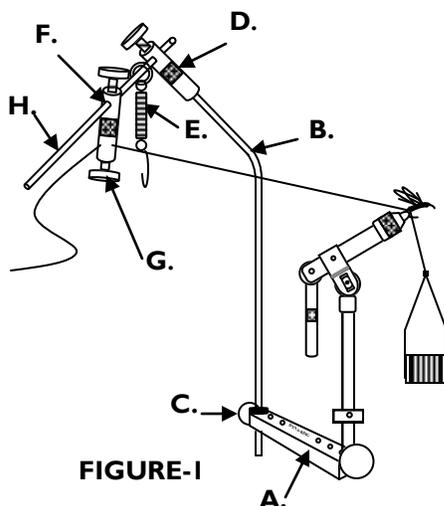

FIGURE-1
The **EB&P Tool** is adjustable to nearly any position around your vise. To assemble the **EB&P Tool (Figure-1)**, first insert your vise shaft into the 3/8" diameter hole of the **Beam (A)**. Now place your vise, with the **Beam** attached, back into your vise clamp. Insert the longer end of the **Bent 1/4" Shaft (B)**, into the other end of the **Beam** & tighten the **Lock Screw (C)**. Next, place the **Straight 1/4" Rod (H)** into the 1/4" hole in the **Shaft Head (D)** and tighten the screw. The **Hackle Hook & Spring (E)** should be positioned on the **Straight 1/4" Rod (H)**, between the **Shaft Head (D)** and the **Terminal Head (F)**. Upon completion of assembly, the tool should appear as in the diagram below.